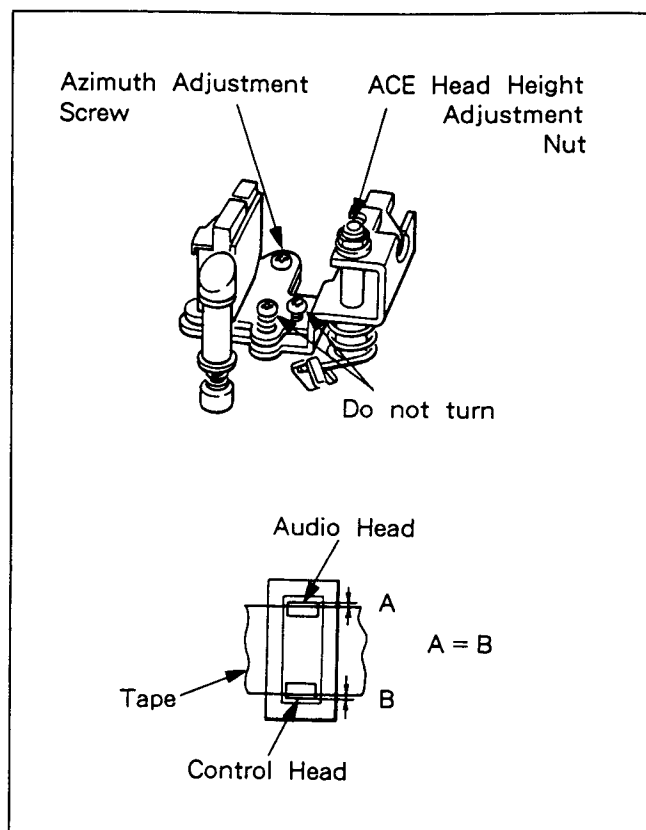

Fig. 5-4-4. (3) Pre-set for Compl Head Bracket
(3) COMPL Head Bracket (ACE Head) (See Fig. 5-4-4.)